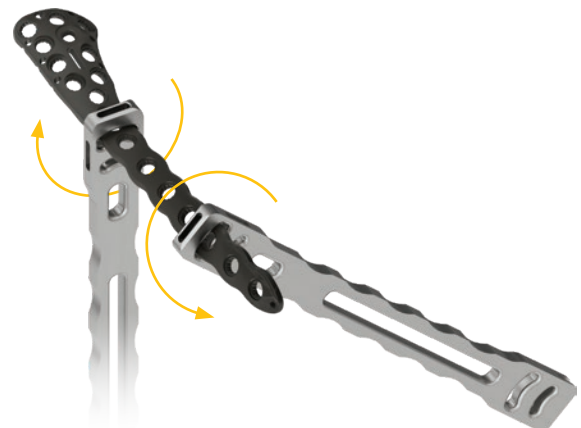

Fig. 2: Bending irons
Should bending of the plate be required, the bending irons (ref 703938) or the table plate bender (ref 702900) may be used. The bending irons are designed to be used as a pair. The slots allow the device to slide over the shaft of the plate for ease of bending (Fig. 2).